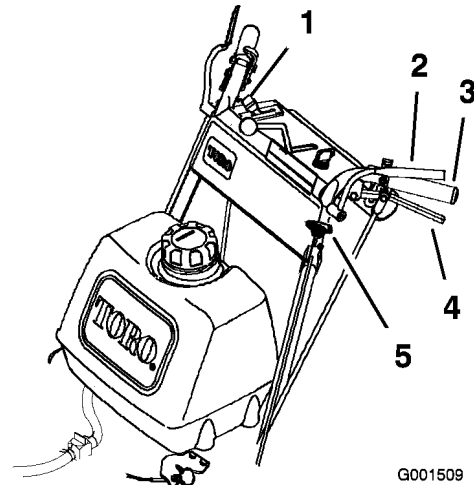

Figure 11
1. To engage blades, squeeze the Operator Presence Control (OPC) levers against handle grips (Figure 11).
1. Push the blade control knob (PTO) down to off (Figure 11).
2. Releasing the Operator Presence Control (OPC) levers will kill the engine and stop the blades (Figure 11) with the blade control lever engaged.